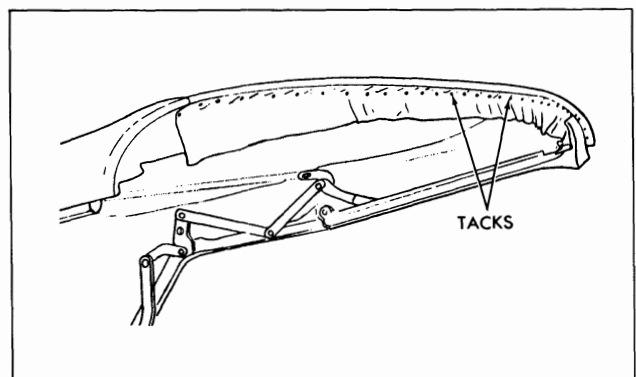

Fig. 21-35 Installation of Top Material
49. Unlock top from windshield header and apply nitrile cement or neoprene-type weatherstrip adhesive to tacking area of front roof rail and corresponding surface of top material. Pull top trim material slightly forward so that pencil marks are on underside of front edge of front roof rail. Fasten top trim to cemented area and stay tack trim to rail (Fig. 21-35).